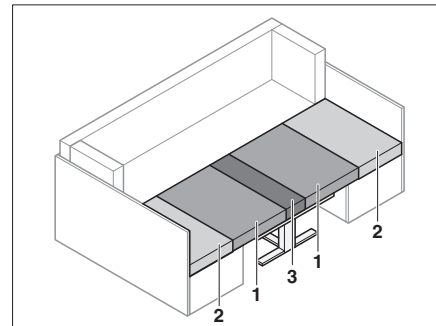

Fig. 67 After conversion
- Remove the back cushions (Fig. 67,2).
- Pull the seat cushions (Fig. 67,1) into the centre.
- Insert the back cushions (Fig. 67,2) between the seat cushions (Fig. 67,1) and the exterior wall.
- Insert the additional cushion (Fig. 67,3) onto the table between the seat cushions (Fig. 67,1).